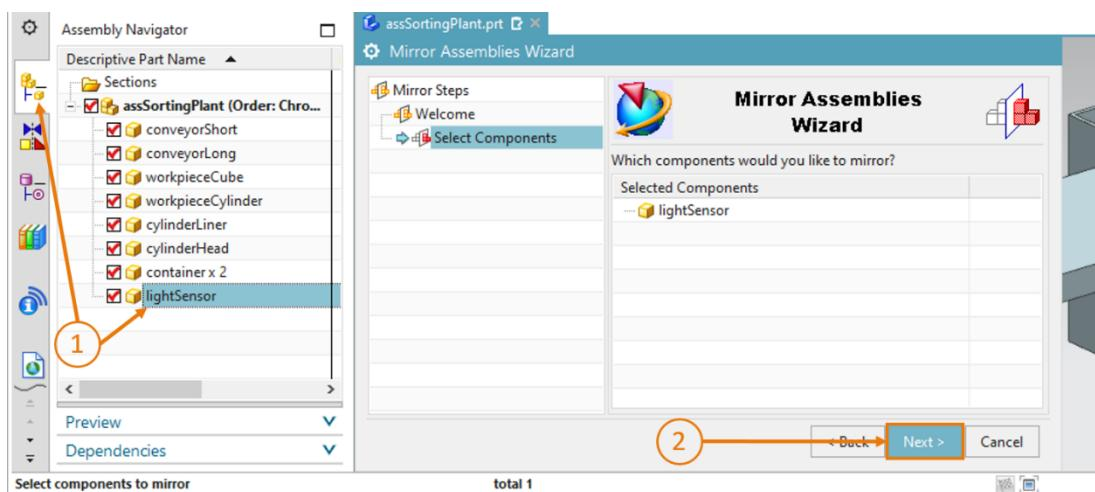
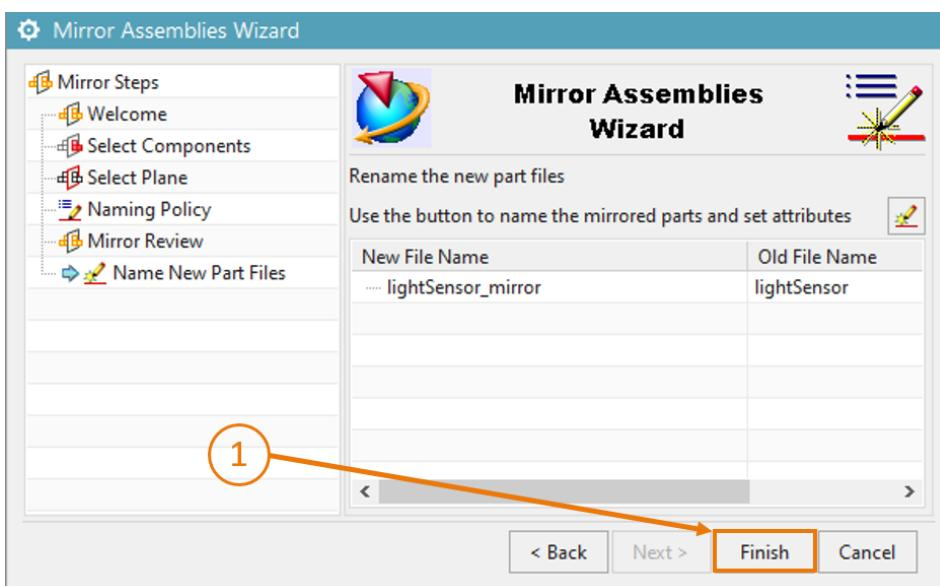

Figure 68: Mirroring the light sensor – Selecting a component
Figure 74: Mirroring the light sensor – Checking the new model name
- You are to select the component to be mirrored in the next window. Navigate to the Assembly Navigator in the Resource bar, and select the "**lightSensor**" model there, (see Figure 68, step 1). This should now be indicated as a selected component in the wizard. Continue by clicking the "**Next**" button (see Figure 68, step 2).
- You are then returned to the Select Plane window shown in Figure 68. Click "Next" in order to select the previously selected datum plane for this mirroring operation.
- The new file name and the name of the source file are then displayed. If the new file name is "lightSensor\_mirror" and stems from the source file "lightSensor", close this wizard by clicking the "Finish" button (see Figure 74, step 1). If there are discrepancies in the new file name, correct your naming rules from before. If you have selected the wrong source file, you need to select a different component in the "Select Components" step of the wizard (see also Figure 68).